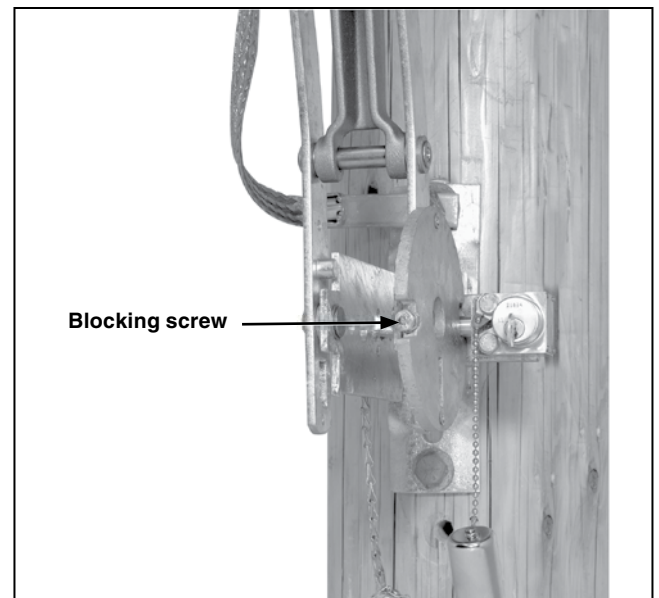

Figure 30. Blocking the slot in the interlock disc.
STEP 28. Block one of the two slots in the locking disc with the blocking screw provided. (The slot to be blocked depends on whether a locked-open or locked-closed arrangement is required.) See Figure 30.